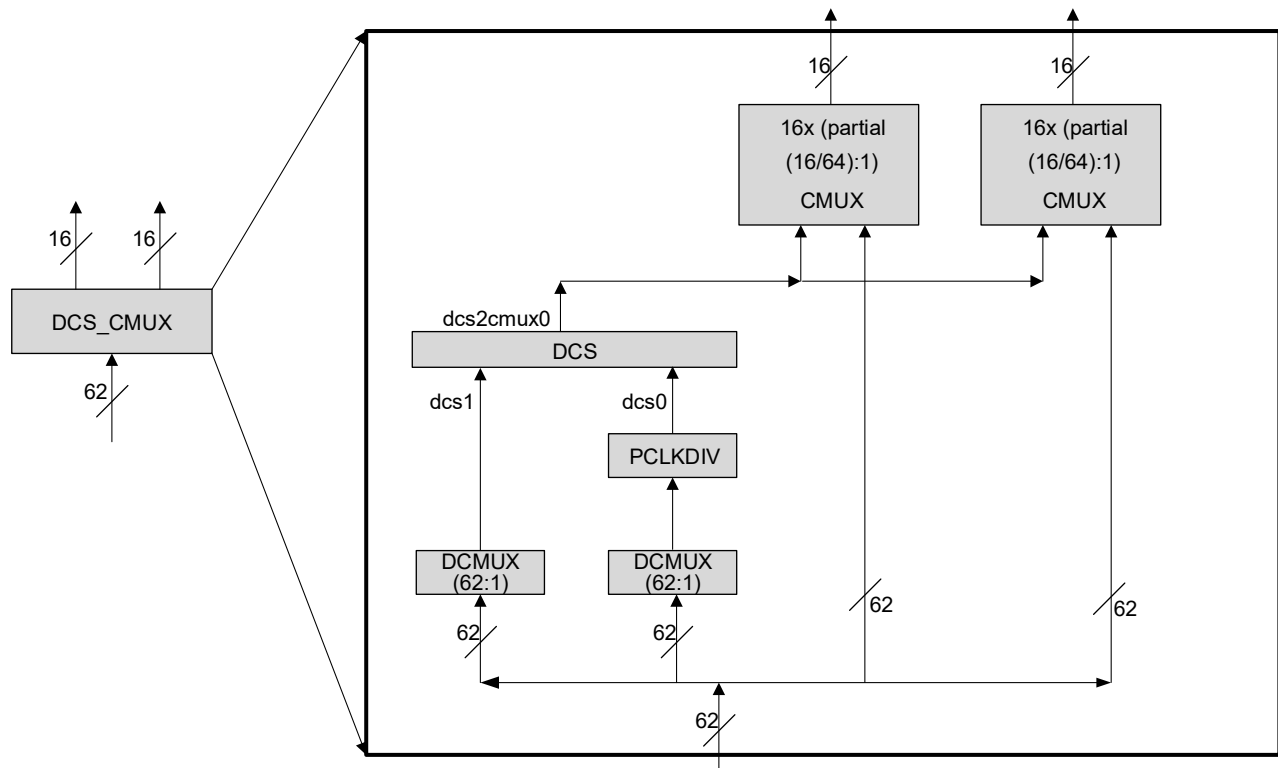

Figure 2.9. DCS\_CMUX Diagram
All clock sources are selected and combined for primary clock routing through the Dynamic Clock Selector Center Multiplexer logic (DCS\_CMUX). There are one (1) or two (2) DCS\_CMUX blocks per device. Each DCS\_CMUX block contains 2 DCSMUX blocks, 1 PCLKDIV, 1 DCS block, and 1 or 2 CMUX blocks. See Figure 2.9 for a representative DCS\_CMUX block diagram.